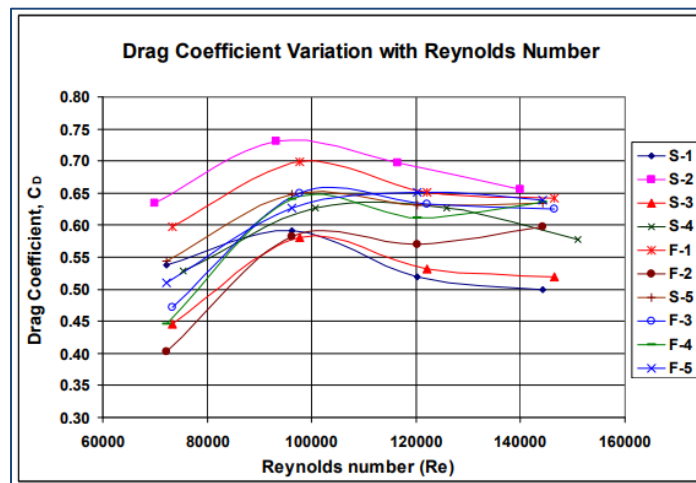

Fig. 32: Drag coefficient variation with Reynolds number for all Shuttlecocks
1. Investigate the drag of natural feather shuttlecock (Fig. 32).